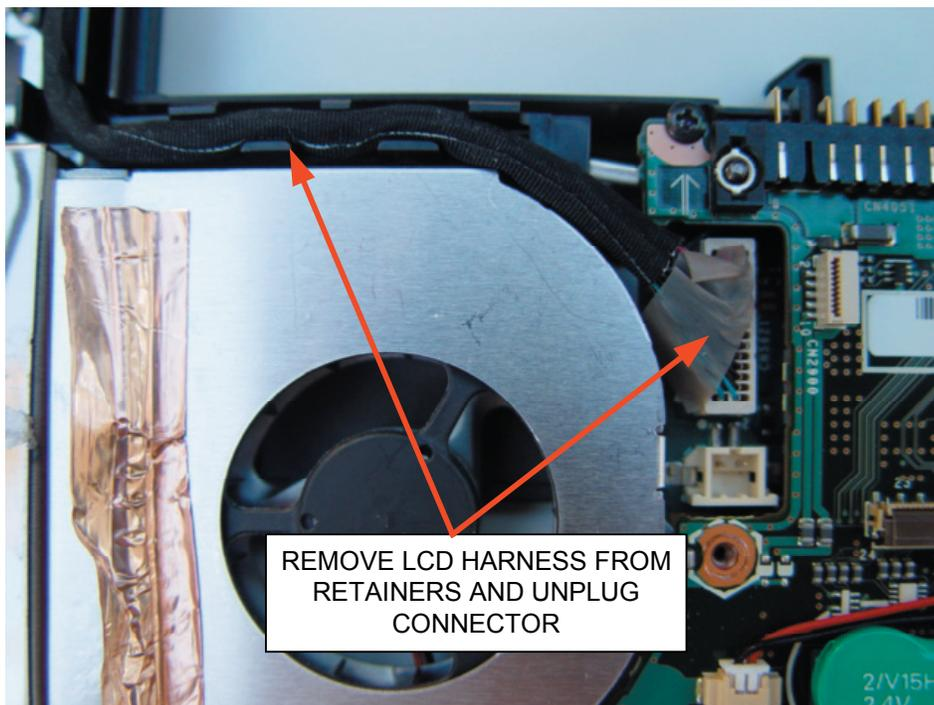

FIGURE 2-12 LCD PANEL REMOVAL (step 1)
Step 1: Unplug the LCD harness from the motherboard as shown in Figure 2-12. Pull the cable out from the retaining clips and dress aside.